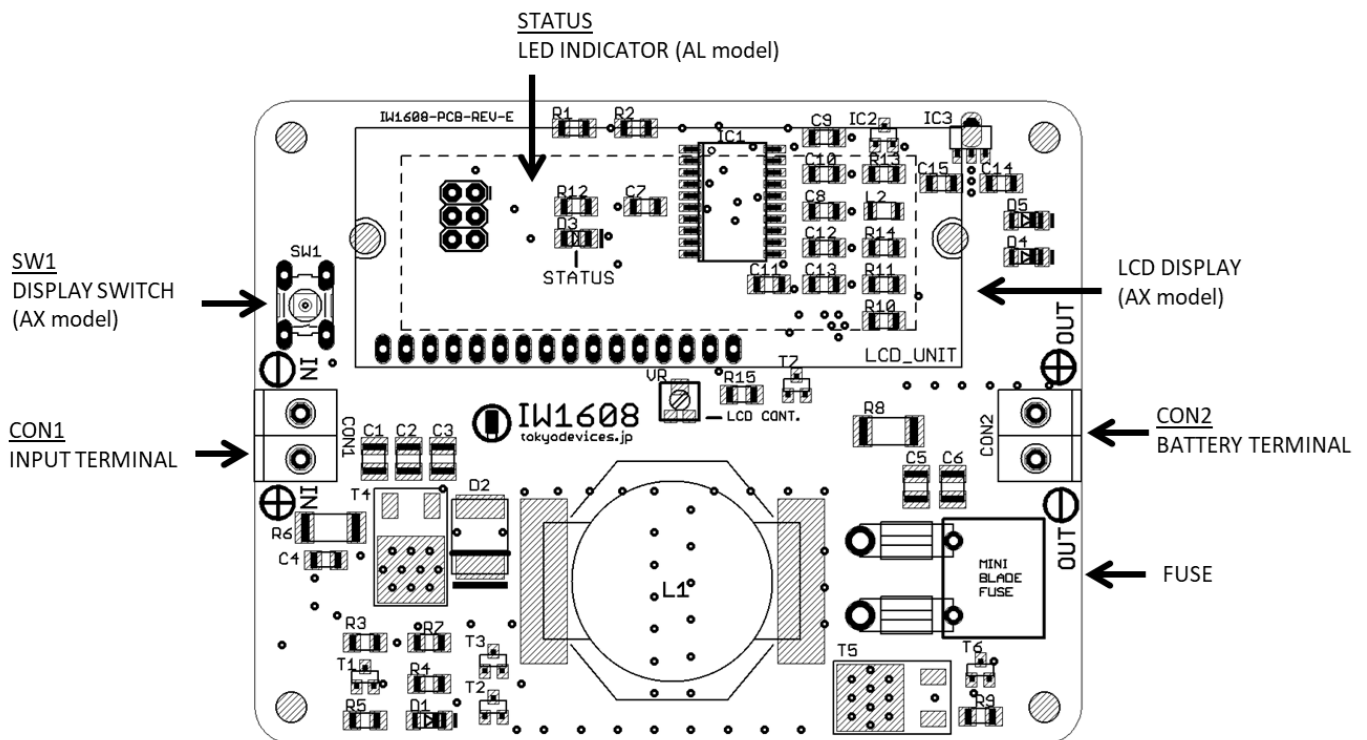

Figure 1 IW1608 Board Layout
Figure 1 shows the schematic of the IW1608. Start by suppressing solar panel generation by covering it with a black cloth or similar method. Next, connect the solar panel cables to the terminals labeled **IN+** and **IN-** on the board. Ensure proper polarity.
If the LCD screen is too dim or faint, you can adjust the contrast using the variable resistor (VR) below the LCD screen (refer to Figure 1). Use a precision flathead screwdriver to adjust the contrast. Turning to the left will darken the display, while turning to the right will lighten it.